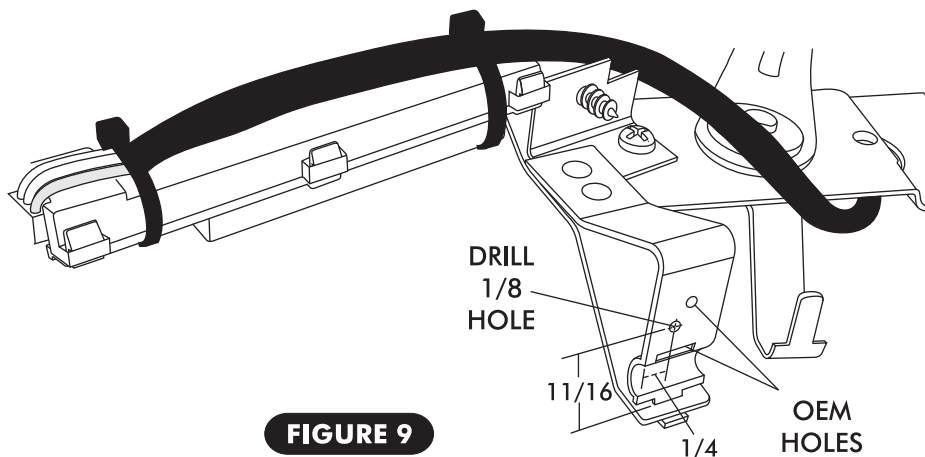

FIGURE 9
- DRILL 1/8 HOLE IN CONTROL PANEL AS SHOWN IN FIGURE 9 BELOW.